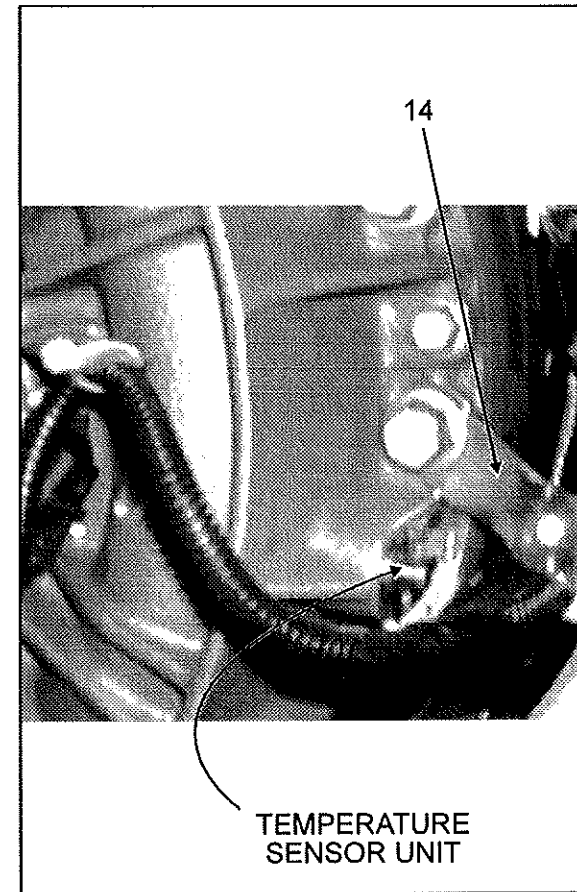

FIGURE 8
14. Fasten bracket (14) on retarder housing using bolt located just above retarder temperature sensor unit (**Figure 8**), then install screw (7) and nut (9). The screw (7) will be used further in this bulletin to retain the transmission harnesses' shield. Secure output speed sensor and retarder solenoid harnesses to bracket (14) using cable ties (not shown).